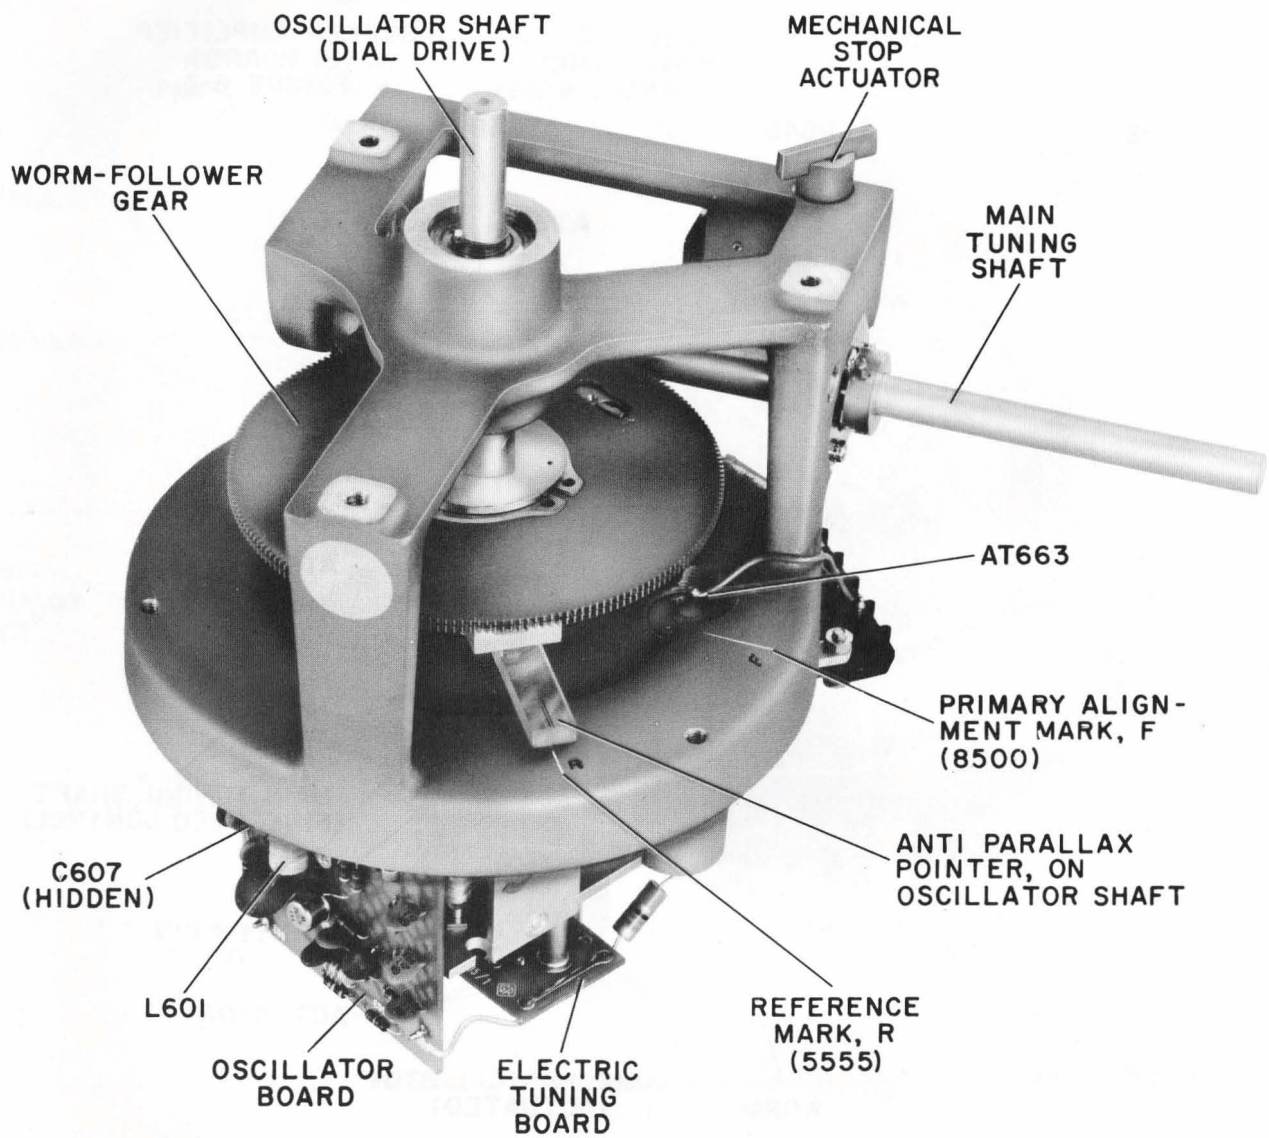

Figure 5-7. Oscillator assembly, top view.
5.3.4 OSCILLATOR ASSEMBLY. (Figures 5-7, 5-8).